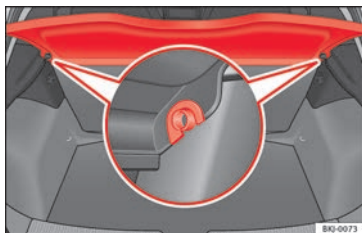

Fig. 161 In the luggage compartment: removing and installing the rear shelf.
- Remove the rear shelf from the side supports » **Fig. 161** by pulling it upwards and then take it out.
- Insert the cover horizontally so that the “recess” fits onto the axis of the supports » **Fig. 161** and press down until it engages.